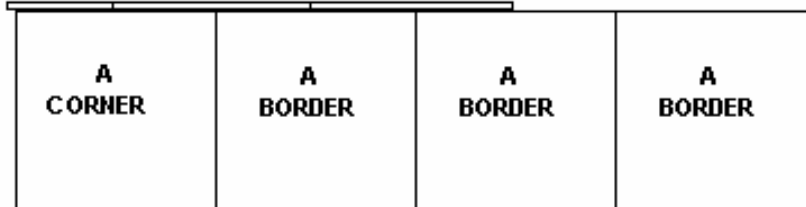

Figure 8
8. Next lock another "A BORDER TOP" to Left side of "A BORDER TOP" (Figure 8)